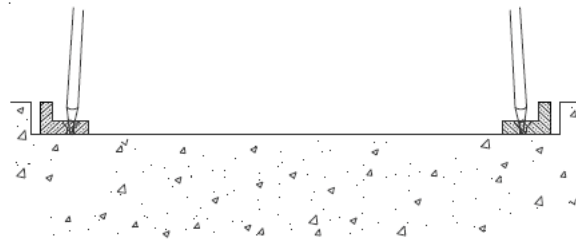

Figure 6
STEP 10. Using the frame as a template, mark the locations for the frame anchors on the concrete (see Figure 6).